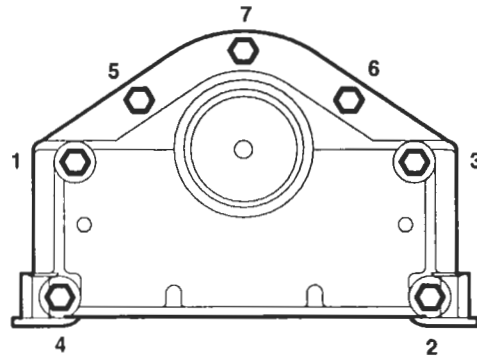

Figure 2. Crankshaft Front Cover Bolt Tightening Sequence
4. Tighten the cover attaching bolts by following the tightening sequence (Figure 2.) Follow this sequence as the bolts are drawn up and then tightened to their proper torque to effect a good seal between the mating parts. Tighten the 3/8-24 inch bolts to 25-30 lb-ft (34-41 N·m) and the 1/2-13 inch bolts to 80-90 lb-ft (108-122 N·m) torque.